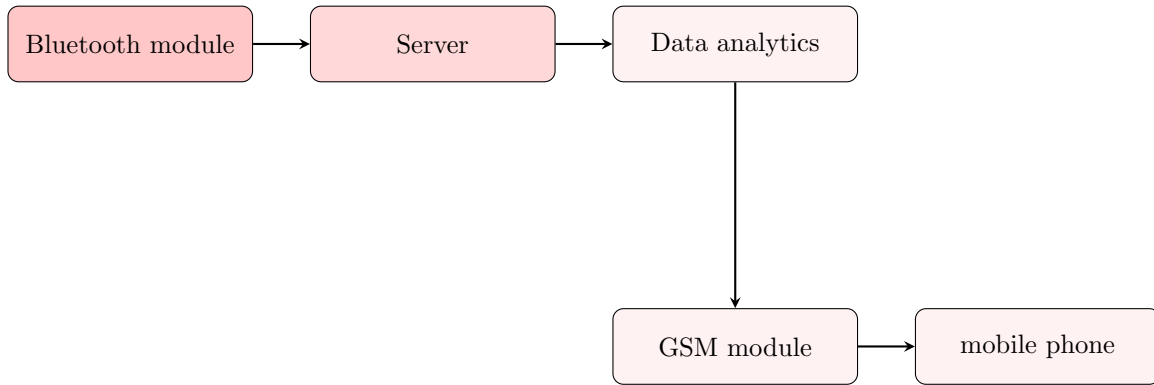

Figure 5.8: Receiver of fall detection system
- (m) receiver of fall detection system is shown in figure 5.8